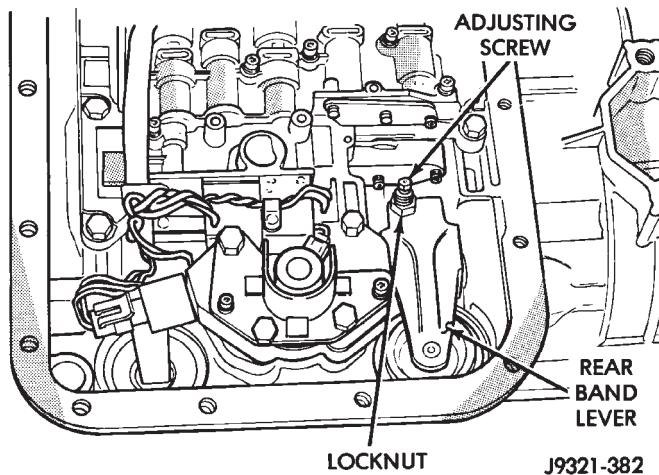
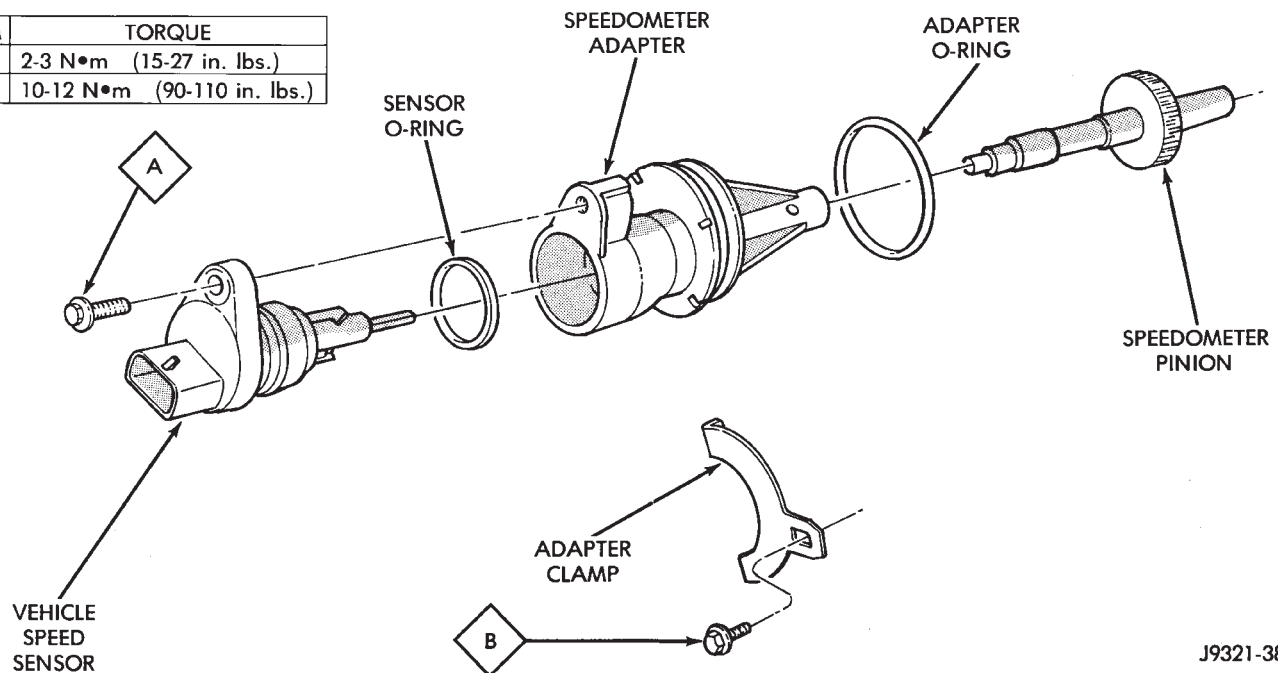

Fig. 9 Rear Band Adjusting Screw Location
Fig. 10 Speedometer Components
(1) Raise vehicle.
(2) Remove transmission oil pan and drain fluid.
(3) Loosen band adjusting screw locknut 5-6 turns. Be sure adjusting screw turns freely in lever. Lubricate screw threads if necessary.
(4) Tighten adjusting screw to 8 N•m (72 in. lbs.) torque (Fig. 9). Use inch-pound Torque Wrench C-3380-A for adjustment.
(5) Back off band adjusting screw 4 turns.
(6) Hold adjusting screw in place and tighten locknut to 34 N•m (25 ft. lbs.) torque.
(7) Clean oil pan, pan magnet and gasket surface of case. Also inspect and replace fluid filter if necessary.
(8) Position new gasket on oil pan and install pan on transmission. Tighten pan bolts to 17 N•m (150 in. lbs.) torque.
(9) Lower vehicle and refill transmission with recommended fluid.
- (1) Raise vehicle.
- (2) Disconnect wires from vehicle speed sensor.
- (3) Remove adapter clamp and screw (Fig. 10).
- (4) Remove speed sensor and speedometer adapter as assembly.
- (5) Remove speed sensor retaining screw and remove sensor from adapter.
- (6) Remove speedometer pinion from adapter.
- (7) Inspect sensor and adapter O-rings (Fig. 9). Remove and discard O-rings if worn or damaged.
- (8) Inspect terminal pins in speed sensor. Clean pins with Mopar electrical spray cleaner if dirty or oxidized. Replace sensor if faulty, or pins are loose, severely corroded, or damaged.
- (1) Thoroughly clean adapter flange and adapter mounting surface in housing. Surfaces must be clean for proper adapter alignment and speedometer operation.
- (2) Install new O-rings on speed sensor and speedometer adapter if necessary (Fig. 10).
- (3) Lubricate sensor and adapter O-rings with transmission fluid.